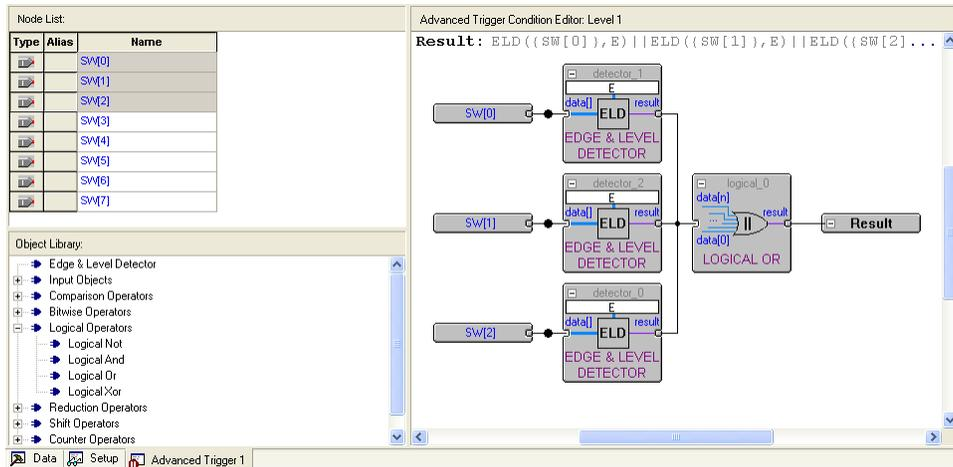

Figure 24. Arrange the elements to create a circuit that looks like this.
- In the object library click Edge and Level Detector and drag this into the editing window. Do this three times and then arrange the circuit as in Figure 24. The three inputs should each be connected to the input of an edge and level detector and the output of each of these detectors should be connected to the OR gate. The output of the OR gate should be connected to the output pin already in the editing window.